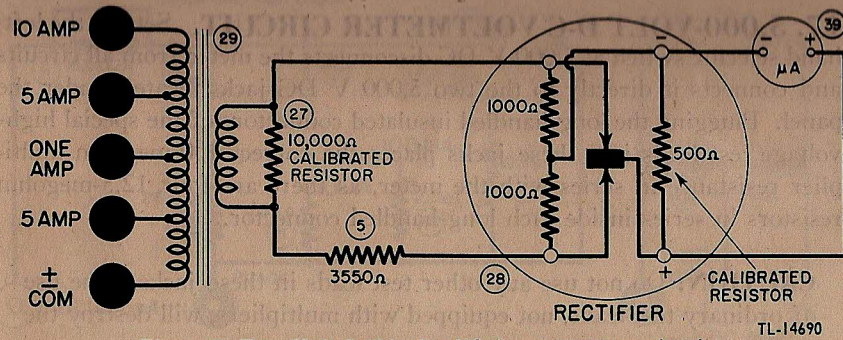

Figure 7. Test Unit I-176, simplified a-c ammeter circuit.
22. A-C AMMETER CIRCUIT (fig. 7). Setting the left-hand selector switch at AC AMPS connects the meter across the output of the rectifier unit, and connects the rectifier input to the secondary of a current transformer. The desired current range is obtained by choosing the required pair of AC AMPS binding posts. The right-hand selector switch is out of the circuit. The current transformer primary taps are so positioned that all full-range input currents produce identical a-c input voltages to the rectifier and cause full-scale deflection of the meter pointer.